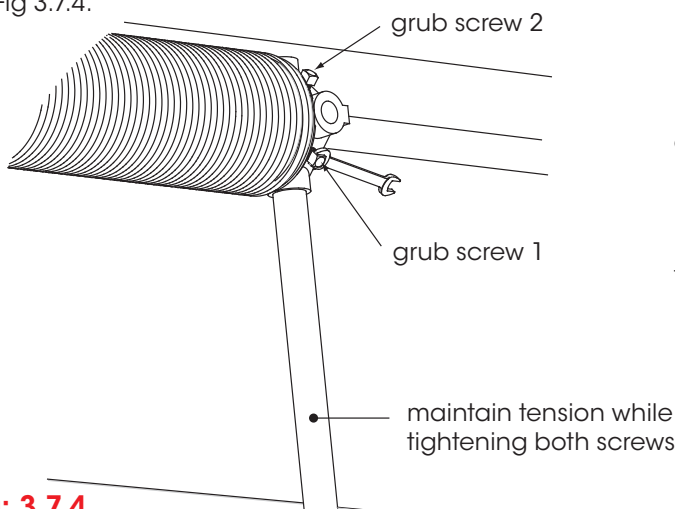

Fig: 3.7.4
- d) Maintain firm tension on the winding bar, while using a spanner to tighten the two (2) grub screws. Fig 3.7.4.